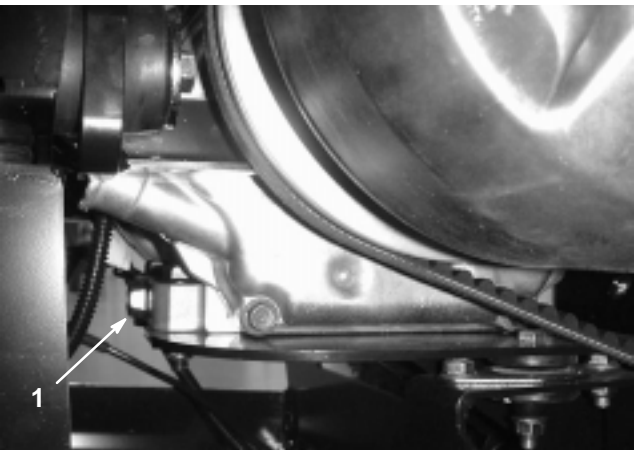

Figure 26
5. Remove the drain plug (Fig. 26) and let the oil flow into a drain pan. When the oil has drained completely, install the drain plug and torque it to 13 ft.-lb. (17.6 N·m).